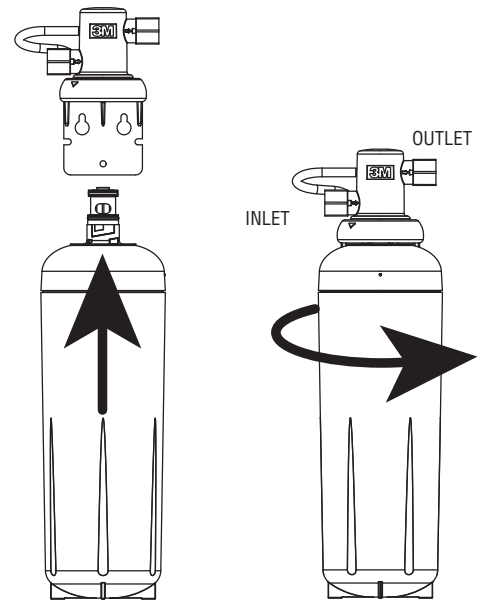

Figure 6
12. Align lugs of filter with head assembly and insert filter into head assembly. Turn filter to the right (clockwise) until it stops (about 1/4 turn). The filter is now installed. (See Figure 6)
- The disposable replacement filter **must** be replaced every twelve (12) months, at the rated capacity or sooner if a noticeable reduction in flow rate occurs.
5. Insert replacement filter into filter head assembly. Turn replacement filter one quarter turn to the right (clockwise) until it stops. When fully engaged, the top surface of the filter will be flush with the bottom of the filter head assembly. (See Figure 6)